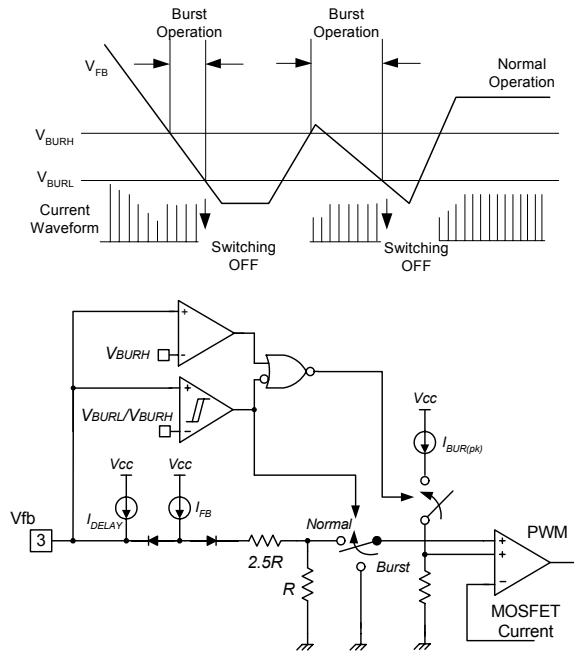

Figure 8. Burst Operation Function
6. Burst Operation : In order to minimize power dissipation in standby mode, the FPS enters burst mode operation. As the load decreases, the feedback voltage decreases. As shown in Figure 8, the device automatically enters burst mode when the feedback voltage drops below V_{BURH}(500mV). Switching still continues but the current limit is set to a fixed limit internally to minimize flux density in the transformer. The fixed current limit is larger than that defined by V_{FB} = V_{BURH} and therefore, V_{FB} is driven down further. Switching continues until the feedback voltage drops below V_{BURL}(350mV). At this point switching stops and the output voltages start to drop at a rate dependent on the standby current load. This causes the feedback voltage to rise. Once it passes V_{BURH}, switching resumes. The feedback voltage then falls and the process repeats. Burst mode operation alternately enables and disables switching of the Sense FET and reduces switching loss in Standby mode.